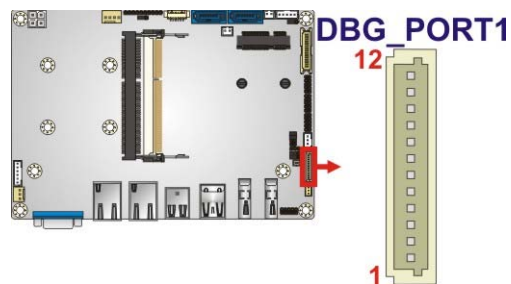

Figure 3-5: EC Debug Connector Location
- CN Location:** See **Figure 3-5**